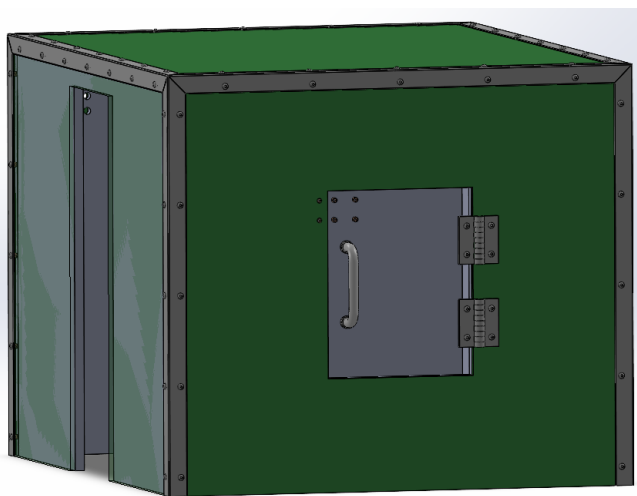

Fig. 19. Acrylic door installed onto the chamber assembly.
3. Screw the plastic hinges onto the front acrylic using the 3/8" 8-32 screws, see Fig. 19.